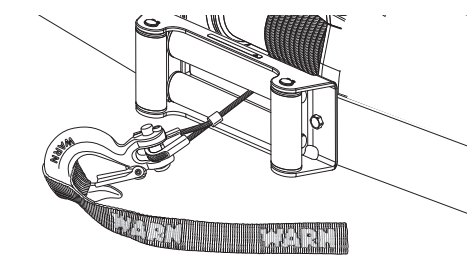

Figure 8
11. Attach hook and hookstrap to winch rope loop and re-engage clutch. Figure 8.